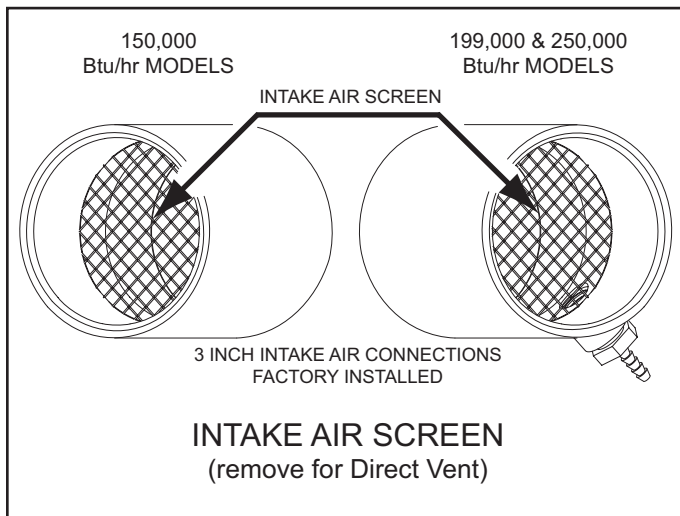

Figure 19
13. Ensure the Intake Air Screen on the Intake Air Connection to the water heater is removed before connecting the intake air pipe to the water heater. See Figure 19.